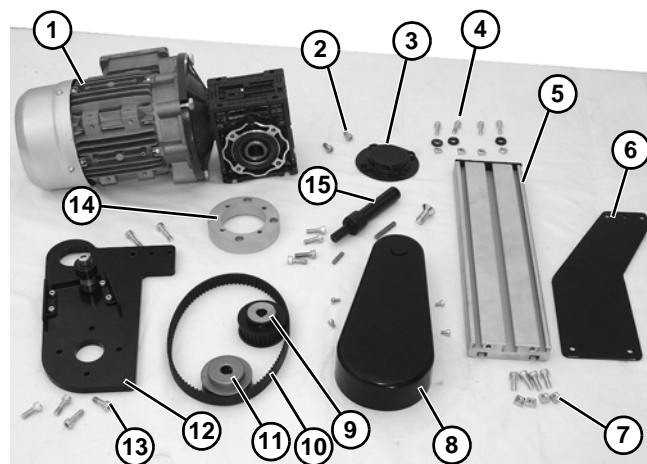

Figure 4
1. Typical components (**Figure 4**).
2100, 2200, MPB and 6200 2" & 3" (51mm & 76mm) and 4100 1" through 6" (25mm – 152mm) conveyors do not include (**Figure 4, item R through W**).